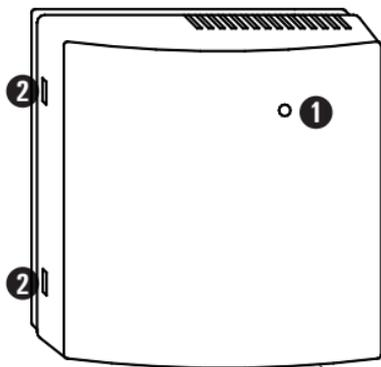
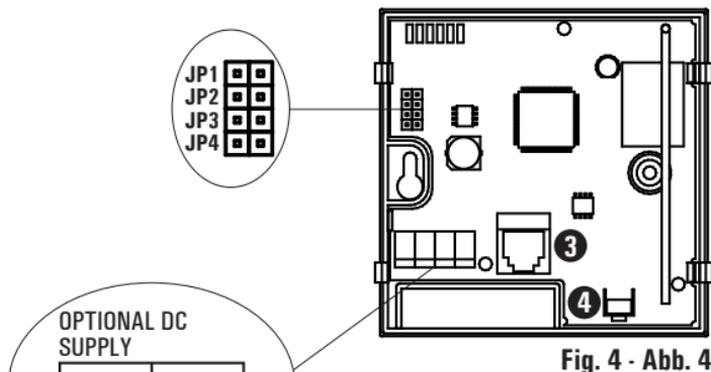

Fig. 1 - Abb. 1
Fig. 4 - Abb. 4
The relay modules provide the power supply in direct current through the data cable. If the device is used as a repeater or receiver connected to a PC, it must receive the power supply through the two terminals duly shown with 1- and 2+ (Fig. 4).
- Press the “self-learning” key for a second, shown with ④ in Fig. 4. This enables the self-learning procedure and the LED ① in Fig. 1 will flash quickly in orange. The self-learning key can be pressed, even without removing the cover, using a small screwdriver through the slots on the front, as shown with ④ in Fig. 1.